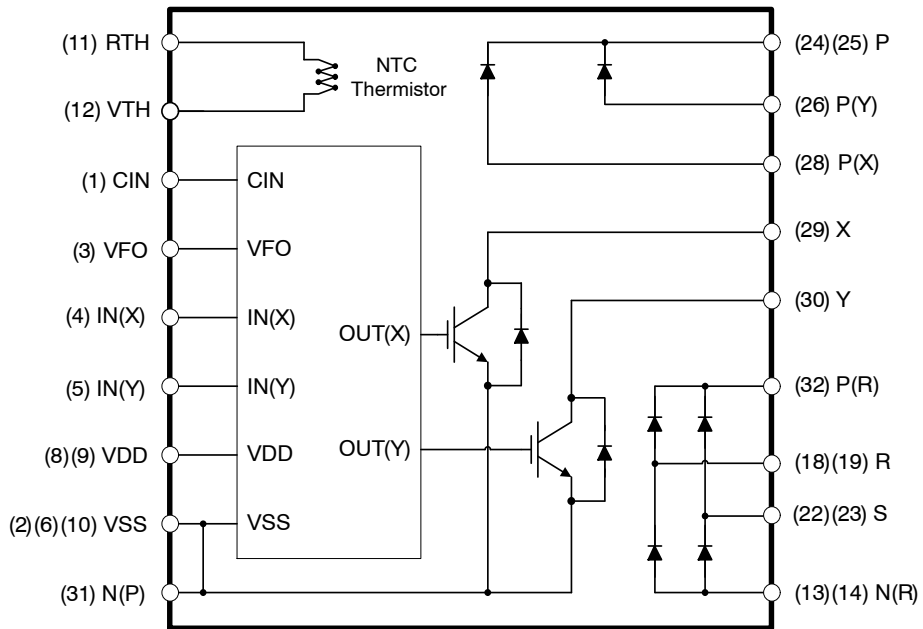

Figure 2. Internal Block Diagram
- 650 V – 50 A 2-Phase Interleaved PFC for Single-phase AC / DC Power Conversion (refer to Figure 2)